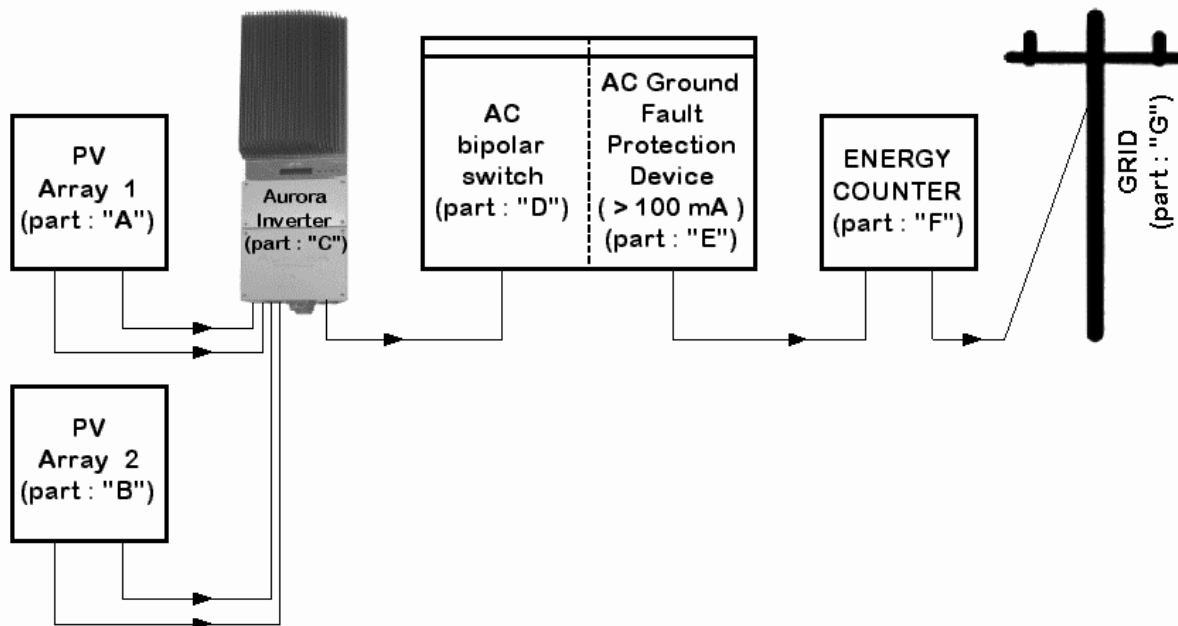

Fig. 9 - Electrical Connection Diagram
On the AC output side an automatic magnetothermic switch should be inserted between the Aurora inverter and the distribution grid (see Fig. 9. - Electrical Connection Diagram).
STEP 1 If the inverter is connected to the AC Grid (Fig. 15- “Terminal Block for AC Connection”— pos. "1", "2" and "3"), DISCONNECT the inverter from the AC Grid by opening the switch indicated as Part “D” in Fig. 9-“Electrical Connection Diagram”. Disconnect the DC side switch (integrated in the –S models, or externally provided).
WARNING: The Switch Box disconnects the DC current from the photovoltaic panels when the switch is in “OFF” position (see the electrical schematics in Fig.11 SD-01 – Electrical Schematics DC Switch Box" and DOES NOT disconnect the AC line going to the Grid. To disconnect the inverter from the AC Grid, the AC switch (not included in the Switch Box) must be disconnected (see Fig. 9 - "Connection Diagram").
Step 1: Disconnect from the AC Grid by turning Off the "AC Bipolar Switch" – Part "D" in Fig. 9 "Electrical Connection Diagram".